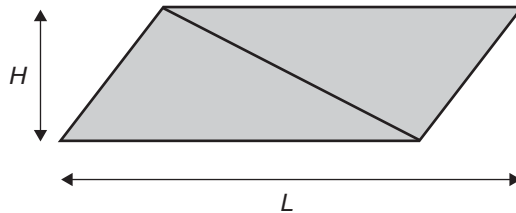

Figure 17
- b. Two end covers will be guillotined from a single piece of rectangular plastic, as shown in Figure 17 below.
Calculate the minimum size of a piece of plastic ($L \times H$), to be cut from the piece of plastic shown in Figure 17, that would be required to make the two end covers. 3 marks